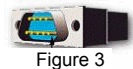

Figure 3
- Step 1** Attach the 20-foot serial cable male connector (DB9M – see Fig. 3) to the radio.